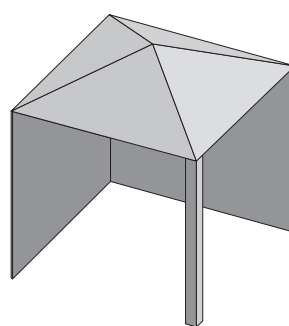

Fig. 2
- » The sidewalls may be parallel, as in a breezeway, or at right angles to each other. **(Fig 2 & Fig 3).**